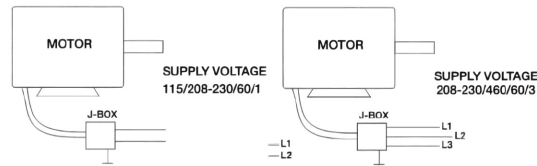

Figure 5 - Typical Wiring Diagram
11. Mount and wire safety disconnect switch under motor cover. Wire control switches at ground level, refer to Figure 5.